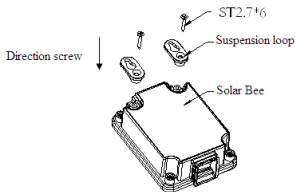

Fig 2-3 Suspension loop installation
1) Use the ST2.7\*6 screws to fix two suspension loops onto the pillars of Solar Bee. Fig 2-3 as below